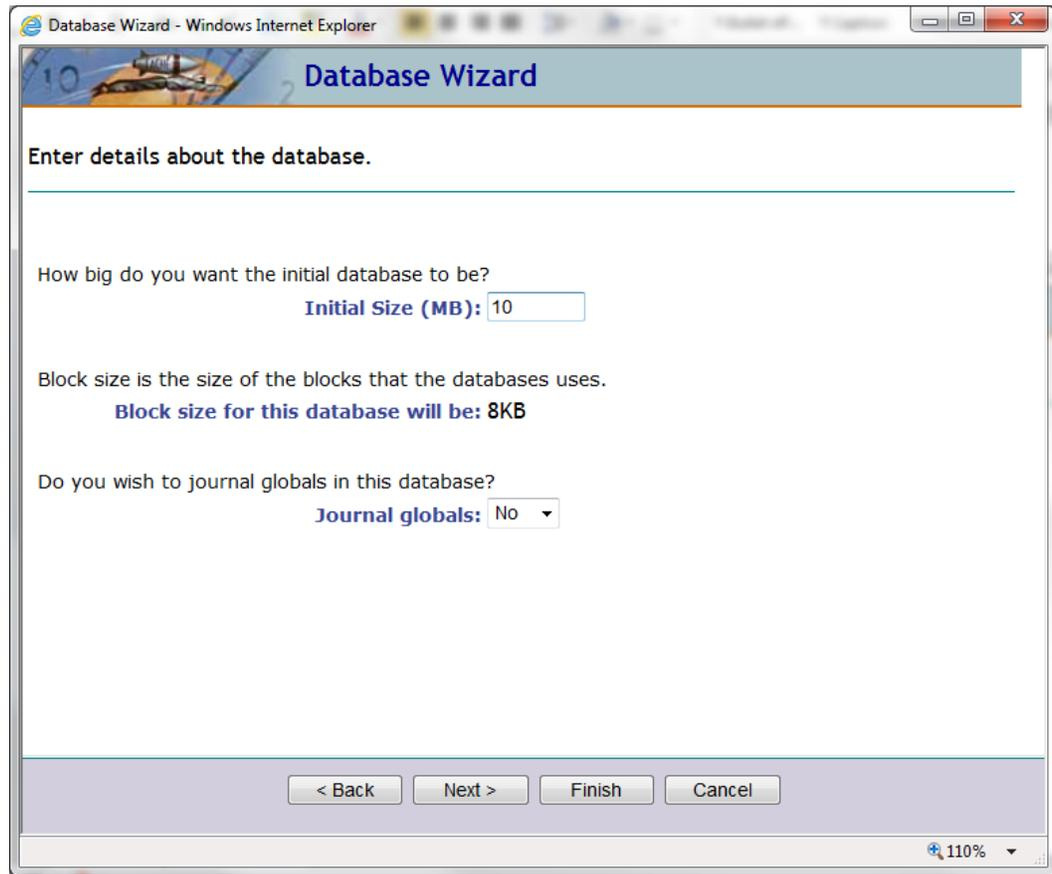

Figure 3-5: **Database Wizard** dialog
10. Click **Next**. The **Enter Details about the database** window displays as in Figure 3-5: